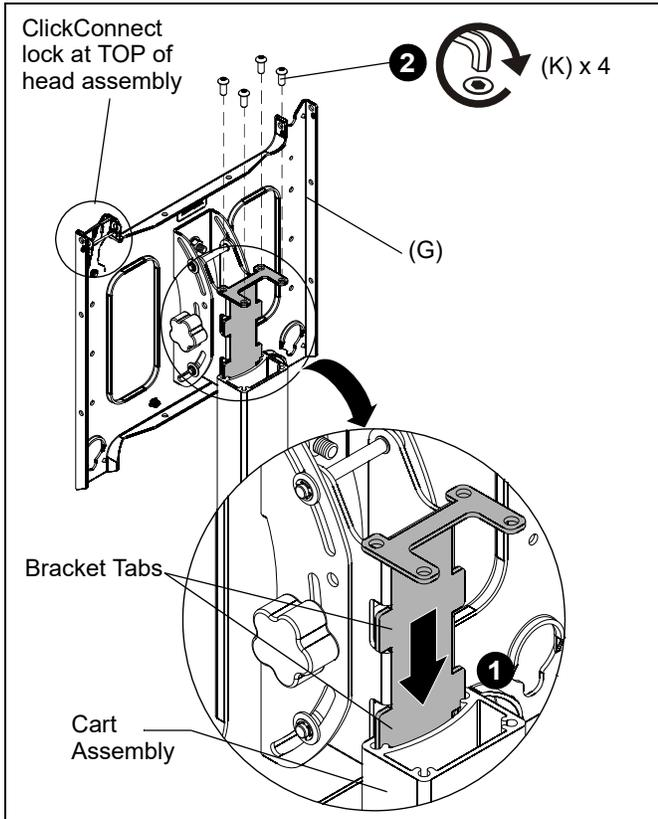

Figure 5
**IMPORTANT !** : When attaching head assembly ensure that the ClickConnect lock is at TOP of head assembly, and bracket tabs slide into the stand assembly. (See Figure 5)
1. Slide head assembly (G) into the stand assembly. (See Figure 5)
2. Attach head assembly (G) to the cart assembly using four 5/16-18 x 1/2" button head cap screws (K). (See Figure 5)